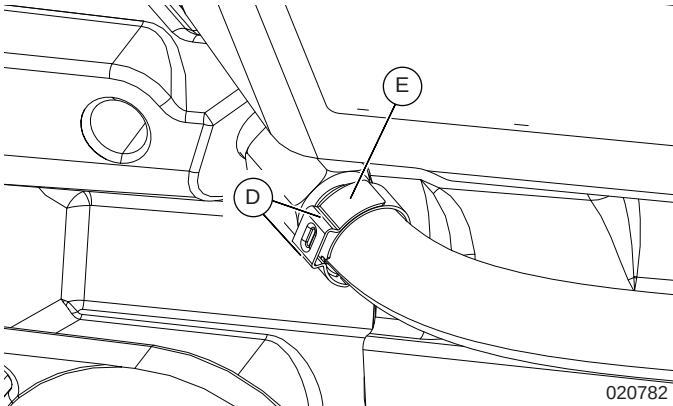

Figure 6-20. Cut Off Oetiker Clamp Ears
3. See Figure 6-20. Cut off ears (D) on stepless ear clamps (E) to allow removal of hoses from barbed fittings. Remove stepless ear clamps.